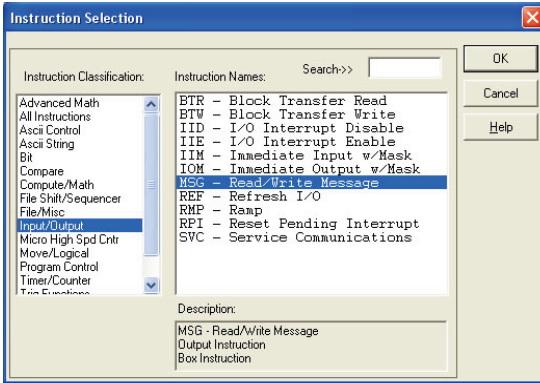

Figure 79: MSG Instruction Selection
- d) Select the "MSG" instruction from the "Input/Output" classification, then click OK. Refer to Figure 79.